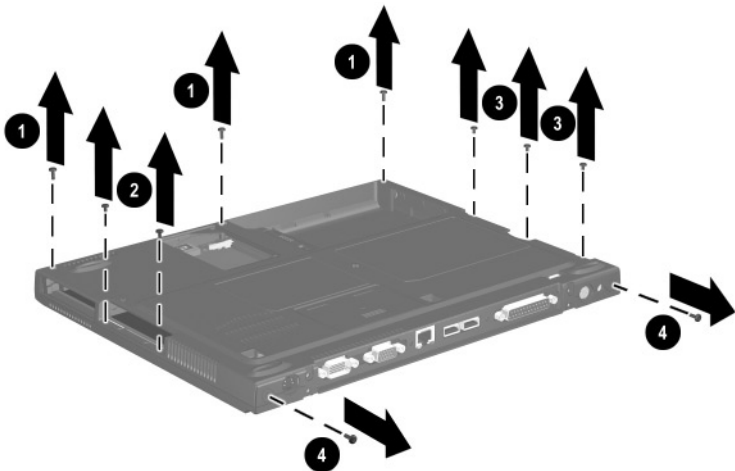

Figure 5-20. Removing the Top Cover Screws
- ❑ Three TM2.5 × 7.0 screws from the front edge of the base enclosure ❶ (Figure 5-20)
- ❑ Two TM2.5 × 5.0 screws from the hard drive bay ❷